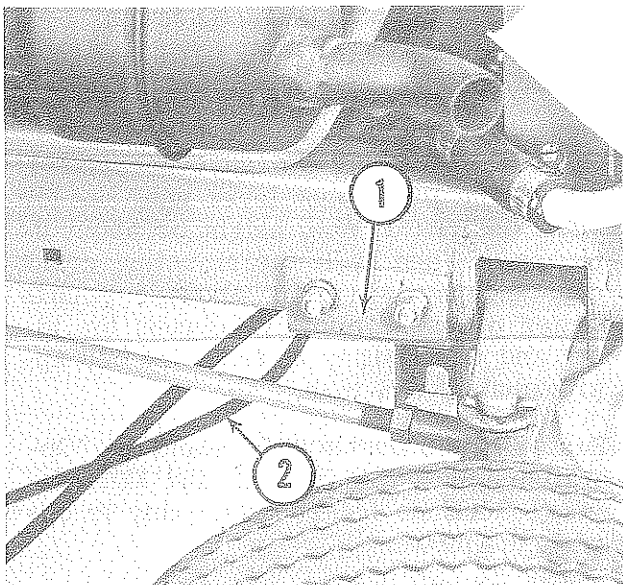

Figure 11. Installing the Front Mounting Brackets and Drive Belt
1. Attach the two front hanger brackets, Figure 11, loosely to the forward set of square holes on each side of the tractor frame channels using the four square neck bolts, nuts and lockwashers. The bracket with the greater offset is attached to the right side of the tractor.
2. Pull the PTO lever out to the "ON" position. Carefully insert the drive belt up through the front end of the tractor frame channels, Figure 11, between the fan and heat exchanger and place over the clutch pulley. Push the PTO lever back in to the "OFF" position.